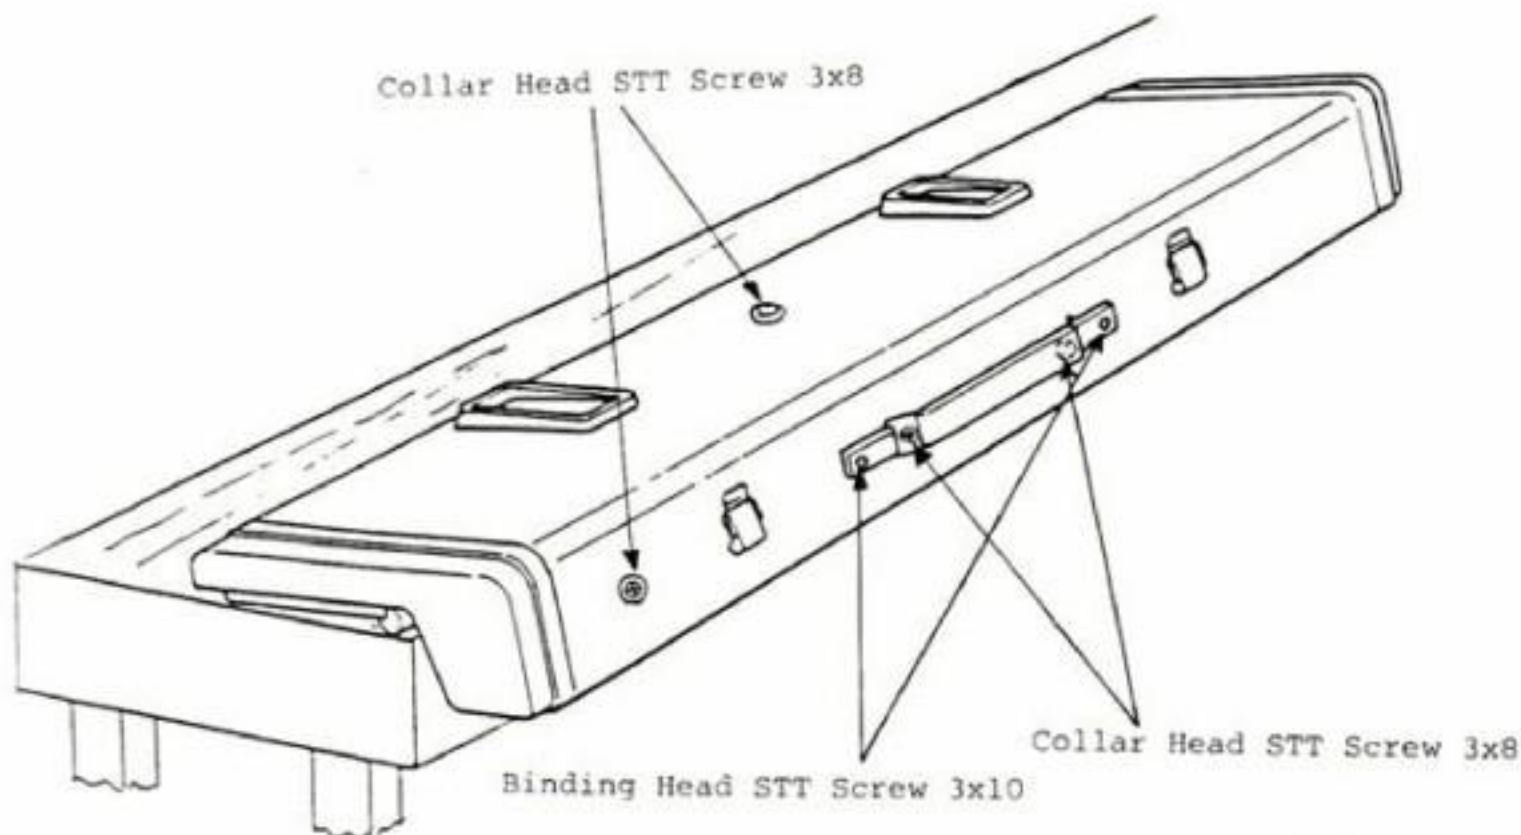

FIG. 28
- Place the Machine Body upside down as shown in Figure 28. Remove four Collar Head STT Screws 3x8 (1 on each bottom and back & 2 behind Carrying Handle), also two Binding Head STT Screws 3x10 securing Carrying Handle Brackets.